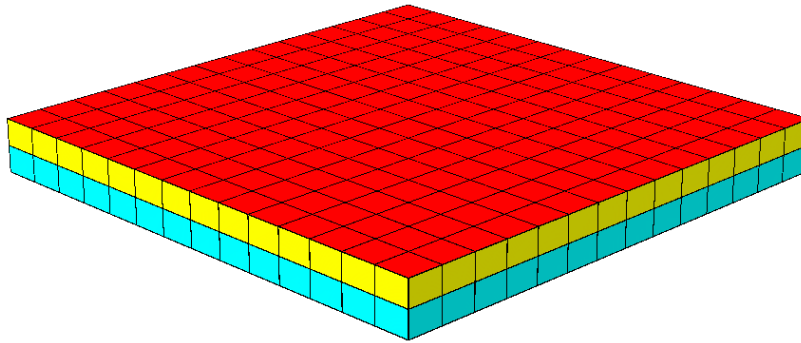

Figure 22: The paneled hull of the Rhino3D generated mesh.
- ☞ The produced mesh should resemble the one found in Figure 22.